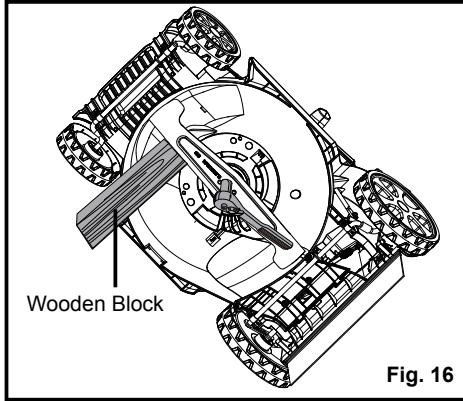

Fig. 16
5. Wedge a block of wood between the blade and the mower deck in order to prevent blade from turning while the blade nut is being removed (Fig. 16).